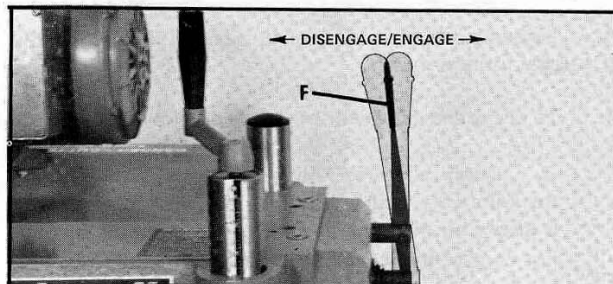

Fig. 44
To engage the feed rolls, pull out lever (F) Fig. 44. To disengage the feed rolls push in lever (F).